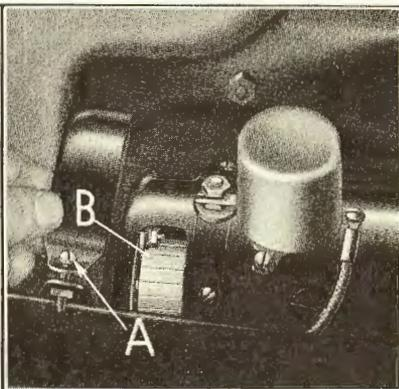

Fig. 511
- 1070** To clean the commutator, loosen the dust cover bolt and lift off dust cover (See "A" Fig. 511). With engine running, hold a piece of fine sandpaper (grade 00) against commutator "B" until commutator is clean and bright.